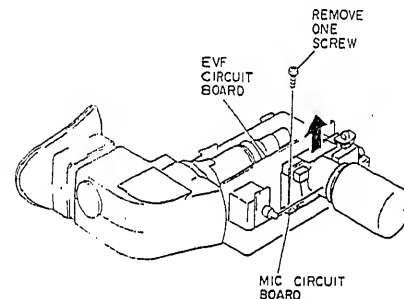

Fig. 2-154
1. Remove one (1) screw holding the EVF shield and pull out the MIC circuit board in the direction of the arrow from the top case. (See Fig. 2-154)